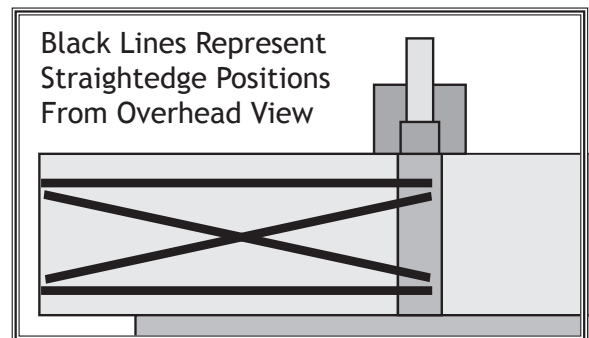

Figure 40. Straightedge positions for verifying if the outfeed table is parallel with cutterhead.
6. Place straightedge in positions shown in **Figure 40**. In each position, straightedge should touch cutterhead and sit flat on outfeed table.